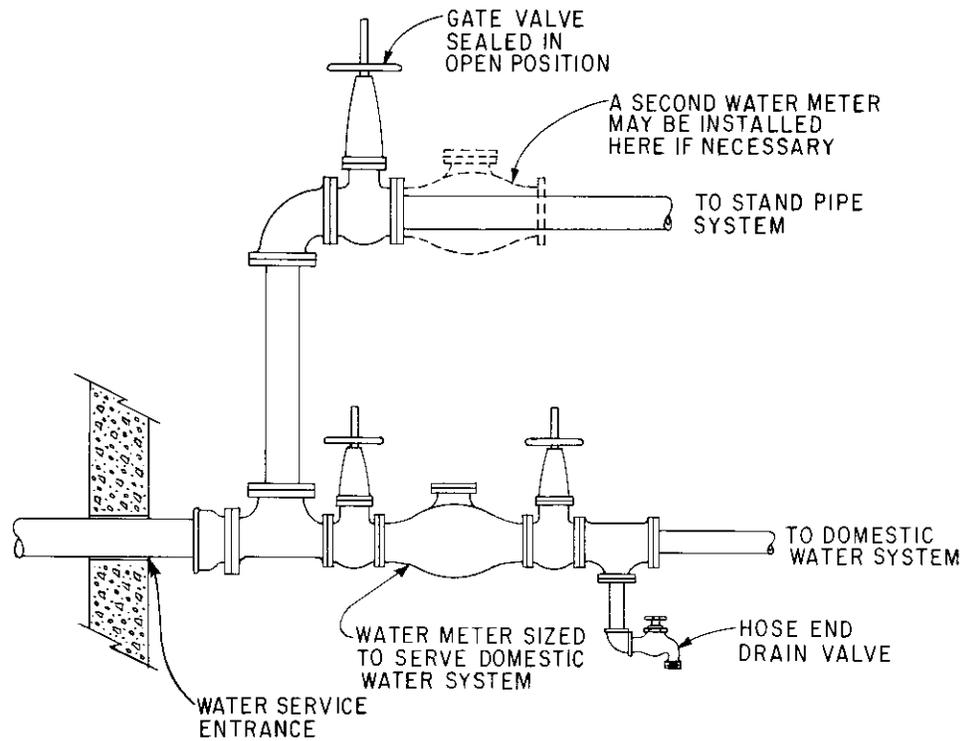

Fig. 4 – Standpipe Bypassing Domestic Water Meter
4.05 The connection at the street water main is 4 inches for the 4-inch standpipe and 6 inches for the 6-inch standpipe. If permitted by the local water company, connect the standpipe water supply so that it bypasses the water meter. See Fig. 4.